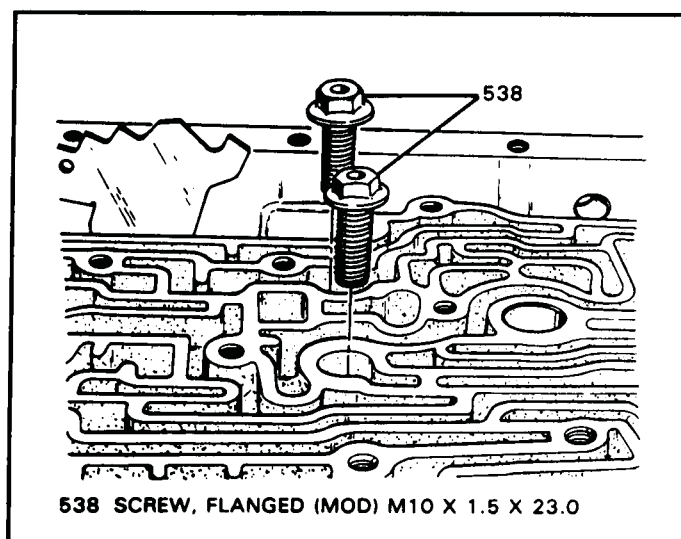

Figure 51
1. Remove the two center support bolts as shown in Figure 51.